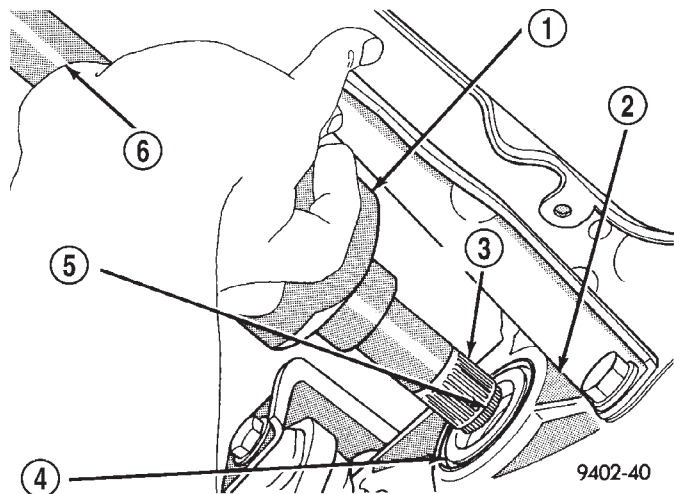

Fig. 14 Tripod Joint Removal from Transaxle
(16) Hold inner tripod joint and interconnecting shaft of driveshaft assembly. Remove inner tripod joint from transaxle, by pulling it straight out of transaxle side gear and transaxle oil seal (Fig. 14).
(2) Holding driveshaft assembly by tripod joint and interconnecting shaft, install tripod joint into transaxle side gear as far as possible by hand (Fig. 14).
(3) Grasp inner tripod joint and interconnecting shaft. Forcefully push the tripod joint into side gear of transaxle, until snap ring is engaged with transaxle side gear. **Test that snap ring is fully engaged with side gear by attempting to remove tripod joint from transaxle by hand. If snap ring is fully engaged with side gear, tripod joint will not be removable by hand.**
(4) Clean all debris and moisture out of steering knuckle, in the area where outer C/V joint will be installed into steering knuckle.